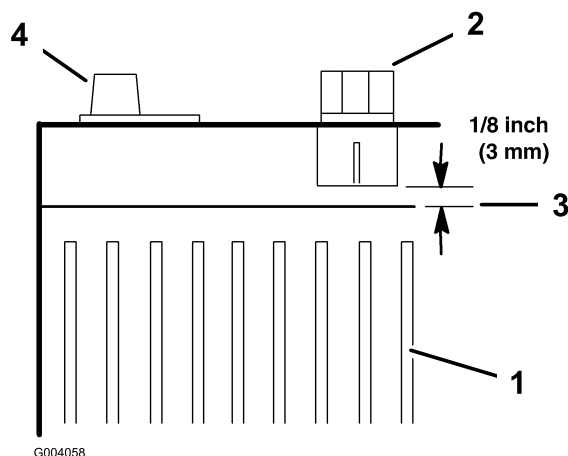

Figure 28
7. Add just enough distilled water to bring the electrolyte level to 1/8 inch (3 mm) below the bottom of each fill well (Figure 28).